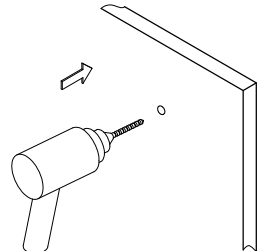

Fig. 3
3. For wall anchors, drill a 3/16" hole and insert the anchor (fig 3 & 4).